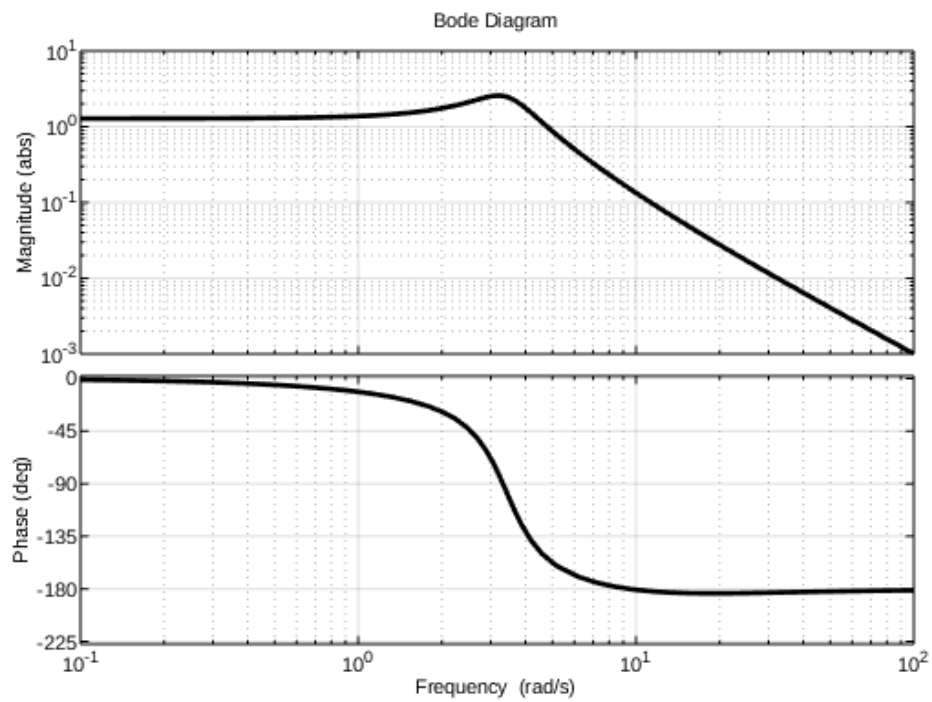

Figure 6: Bode diagram of the closed loop system in Problem 4 c)
**c)** With your help your colleagues choose  $K$  so that the closed loop system is stable and presented you with a bode diagram of the closed loop system (see Figure 6 on next page). However, they noticed that they made an error while identifying the system and the unstable pole could be up to 10% off. That is, the true system,  $G^*(s)$ , looks like